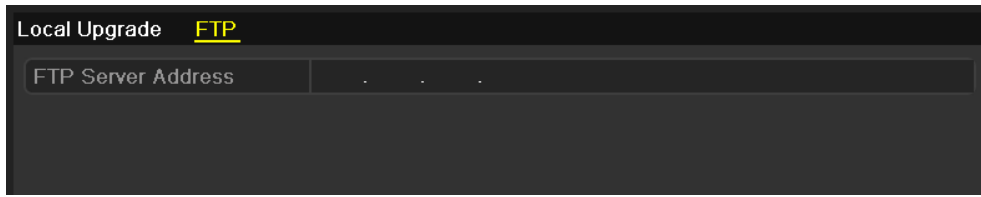

Figure 15-8 FTP Upgrade Interface
Step 2 Click the **FTP** tab to enter the local upgrade interface, as shown in Figure 15-8.